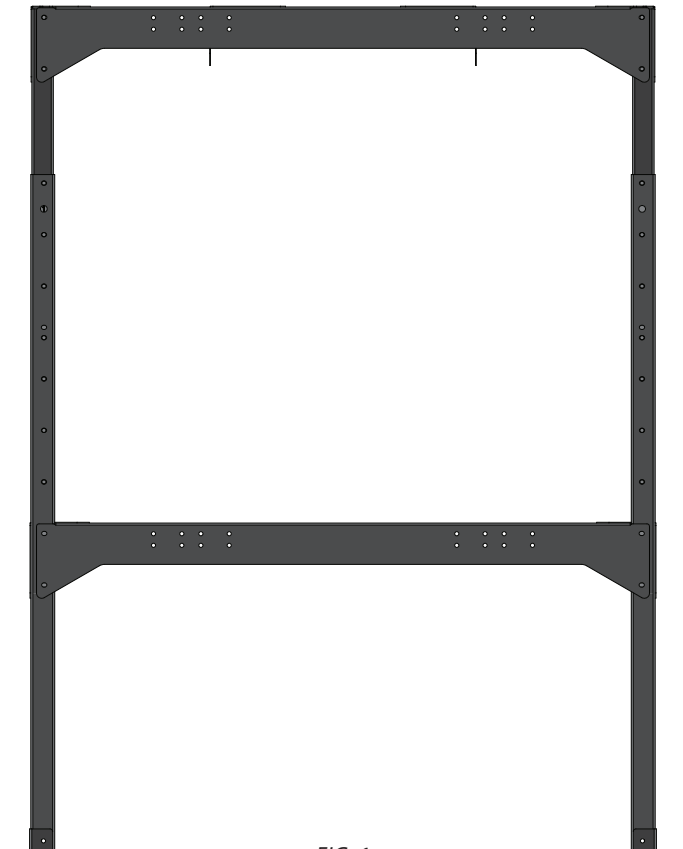

FIG. 1
Assemble the Stand (P) [FIG 1]. Refer to the instruction sheet included: